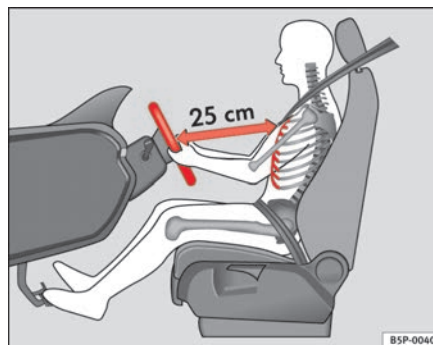

Fig. 136 Proper sitting position for driver
- Adjust the steering wheel in this way until the correct position is set ⇒ fig. 136.
- Adjust the driver seat or steering wheel so that there is a distance of at least 25 cm between the steering wheel and your chest → page 165, fig. 136. If you fail to observe the minimum distance, the airbag will not protect you. Risk of fatal injury.